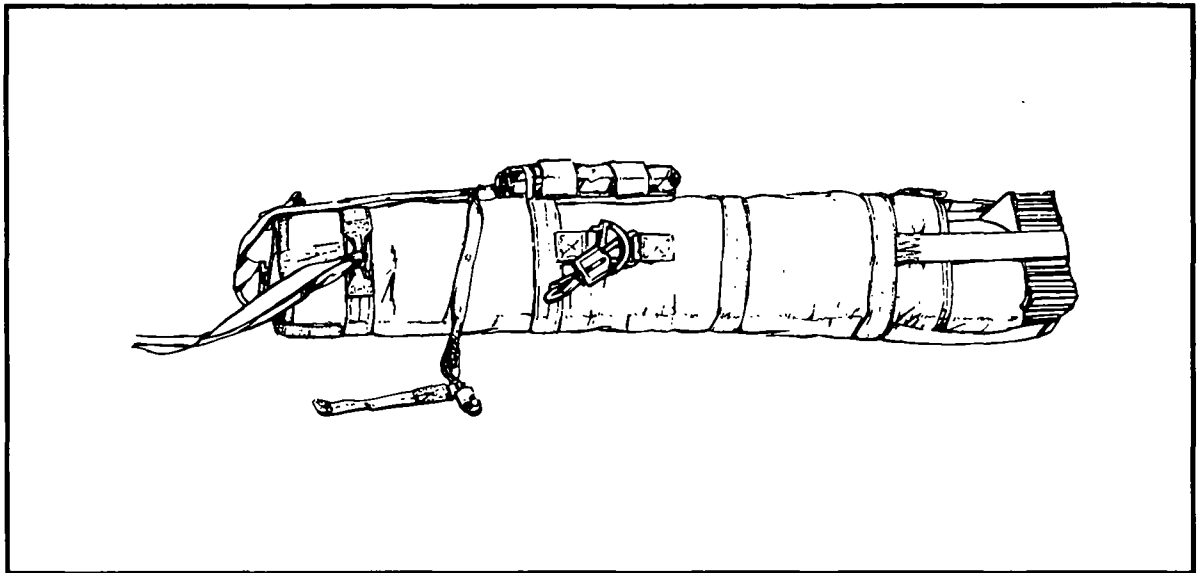

Figure 6-57. Standard lowering line stowed.
(2) Fasten the hook-and-pile tabs firmly together around the lowering line pocket (Figure 6-57). The AT4JP is now ready for attachment to the parachutist.